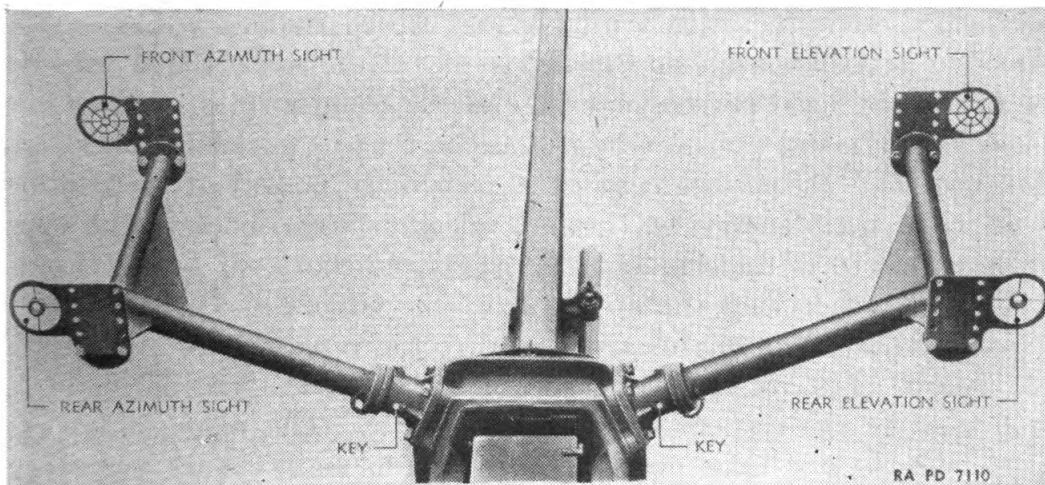

FIGURE 114.—Direct fire sights.
**112. Sights, direct fire.**—*a.* These sights (fig. 114) are used when the director is not available. The sights provide a simple means of giving the necessary lead to allow for target motion during the time of flight of the shell, and of changing the lead quickly during the engagement owing to the change in position of the target.